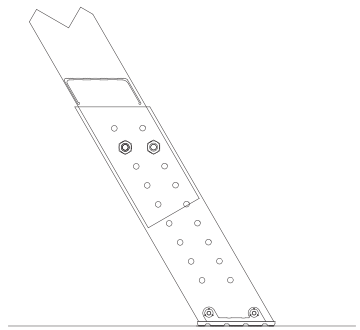

FIGURE 14
E. Slide aluminum foot over ladder rail as shown in Figure 14. Position so the rubber foot is in contact with the floor. Align with closest set of predrilled holes in rail. Attach using (2) ¼" bolts and serrated nuts per side (included).